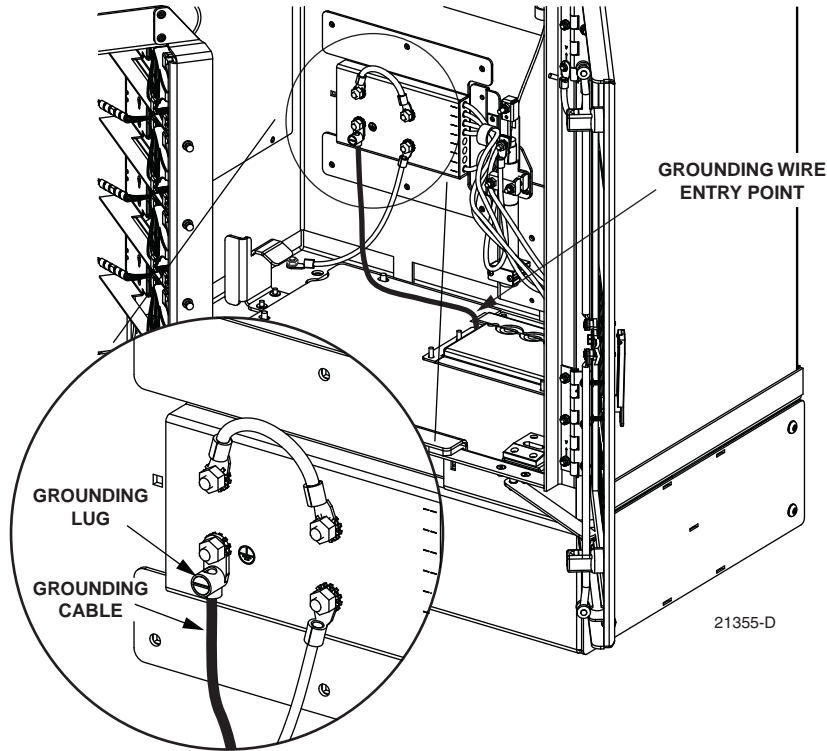

Figure 14. Grounding Wire Connection To Cabinet
2. Working through the access openings on the left or right sides of the cabinet, insert the grounding wire through the flexible membrane at the point indicated in Figure 14.
9. If a grounding stud is provided on the cable, connect a #6 AWG jumper cable (provided with cabinet) between the cable grounding stud and the cabinet grounding block (see Figure 14). Tighten grounding stud nuts to 20 to 25 inch-lbs. (2.3 to 2.8 Nm) of torque.